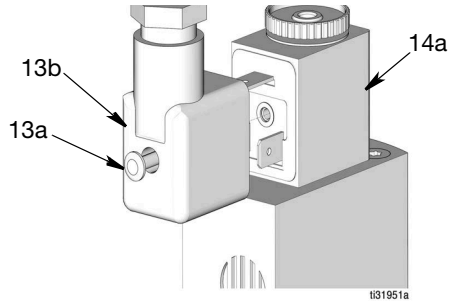

FIG. 6
- Loosen screw (13a) on the back of the mini DIN solenoid connector (14a) and disconnect it from the solenoid connector (14a) (FIG. 6).